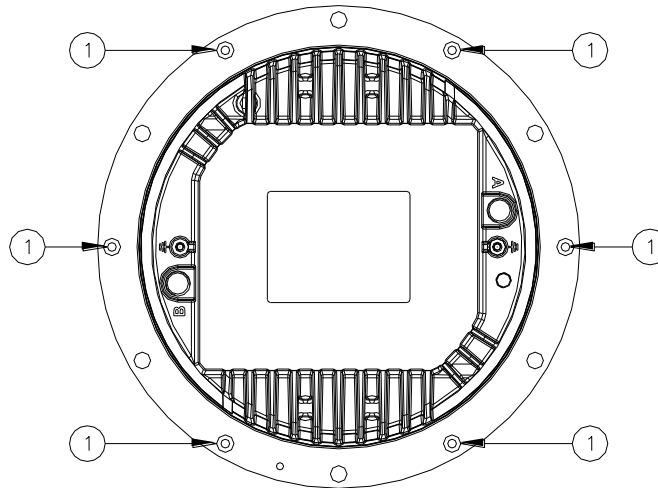
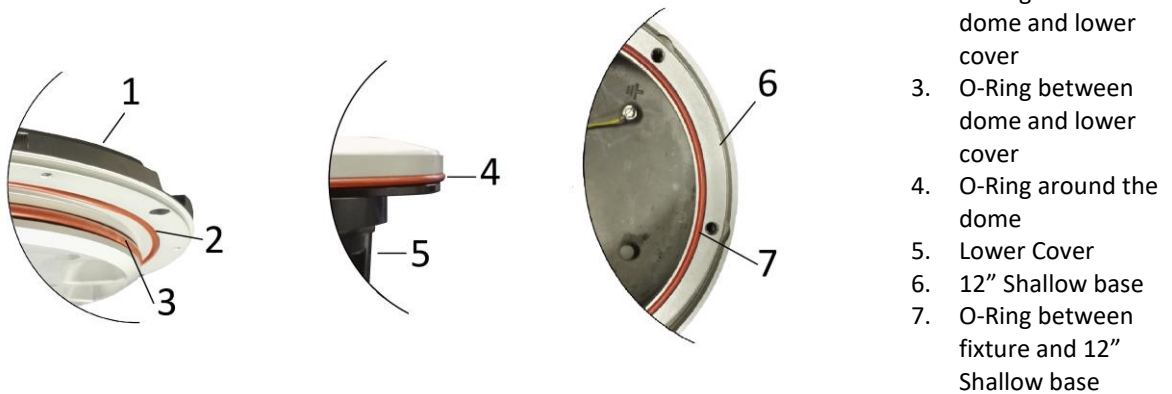

Figure 17 - Lower Cover Fixing Screws
Figure 19 – Fixture Gaskets
- Open the fixture by unscrewing the six locking screws FLAT CSS TORX M5x10 (Figure 17 - n°1).
- six locking screws flat CSS TORX M5x10 (Figure 17 - n°1);
- O-Rings between dome and lower cover (Figure 19 – n°2 and 3);
Verify the correct position of the two O-Ring between dome and lower cover (Figure 19 – n°2 and 3); mount the lower cover on the dome and fasten it by means the six screws flat CSS TORX M5x10 (Figure 17 - n°1). One drop of anaerobic adhesive lower type (e.g. LOXEAL 24-18) should be applied to the screws before installation; tightening torque is 2.5 Nm.
- O-Ring around the dome (Figure 19 – n°4);
- O-Ring between fixture and shallow base (Figure 19 – n°7);